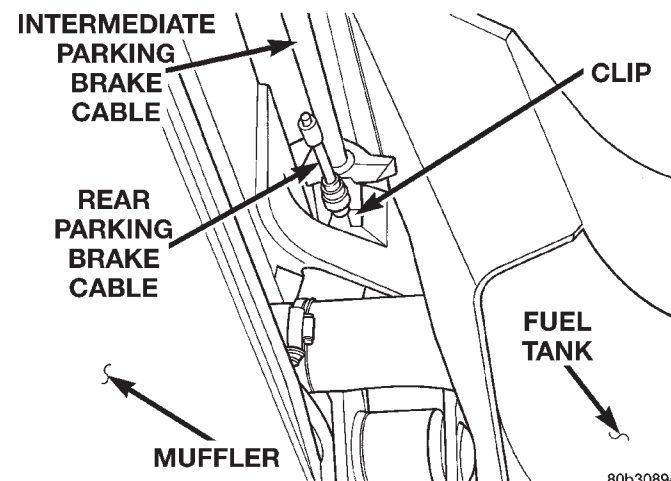

Fig. 71 Left Rear Parking Brake Retainer Clip
(1) Loose the park brake cable tensioner nut until tension is removed from cables.
(4) Remove the retainer clip securing the preferred rear park brake cable to the crossmember (Fig. 71).